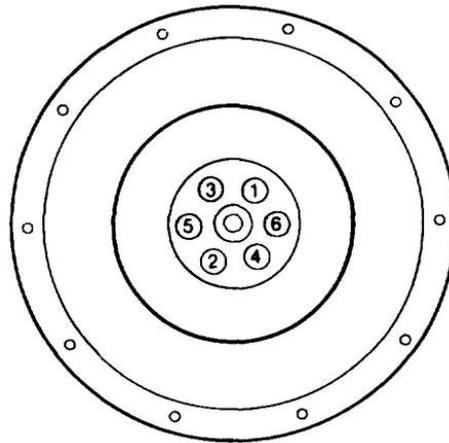

Figure 45 Flywheel - Tightening Sequence
- c. Install the flywheel and secure it in position with the six retaining bolts. Torque the retaining bolts to 142 to 170 N.m (105-125 lbf.ft) in sequence (Figure 45).